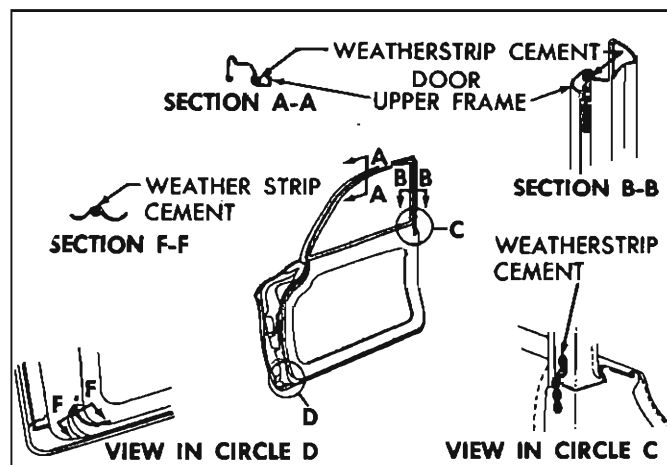

Fig. 3—Front Door Weatherstrip Cement Application
2. With a flat-bladed tool, carefully break cement bond at hinge and lock pillar areas on all styles, on all styles except convertibles, break cement bond along door window frame, and at lower front corner of front doors (fig. 3).